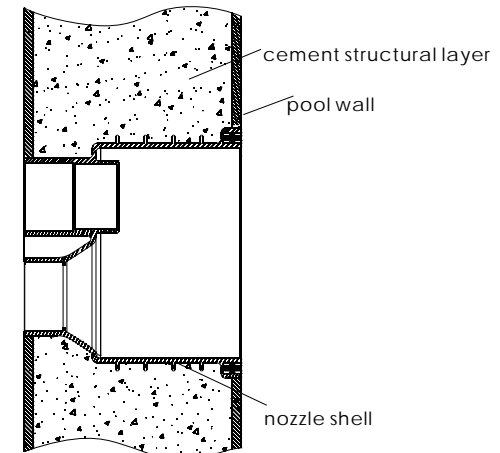

Figure 2
- b) Fit counter current jet body into in to concrete wall. (Figure 2)